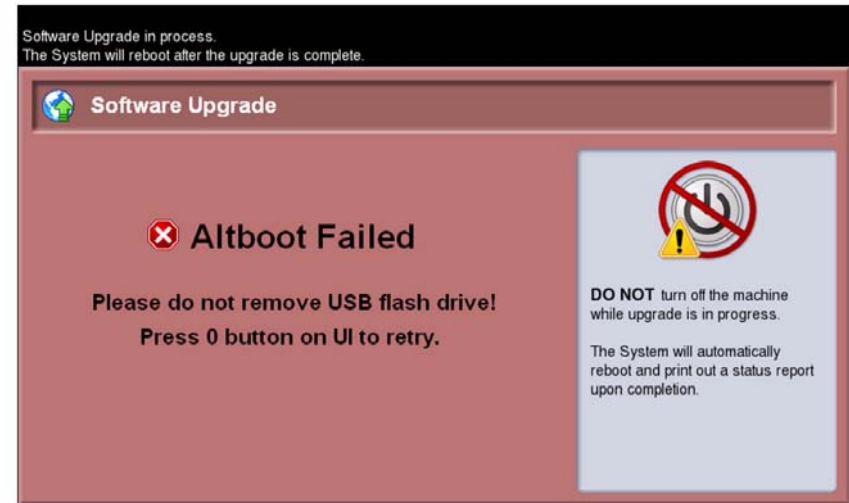

Figure 5 AltBoot failed
12. If the AltBoot process fails, the AltBoot failed screen opens, Figure 5. Follow the on screen instructions. Restart the procedure and troubleshoot as necessary.